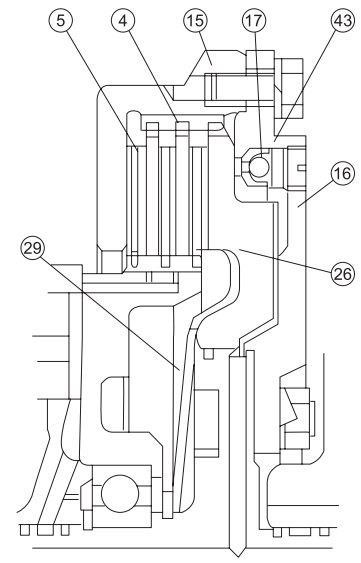

Figure 3-23
Figure 3-23 is the structural scheme of the fifth row of clutch. When this clutch is disengaged, the working oil in the back space of oil cylinder (16) is under the action of the centrifugal force generated through rotation, and therefore relying on the butterfly-shaped spring (29) alone can't ensure the rapid separation of the friction disks. This will put the clutch in a semi-disengaged state, and a fault may occur when you change the gear next time. In order to eliminate this phenomenon, the steel ball check valve (17) is put inside.